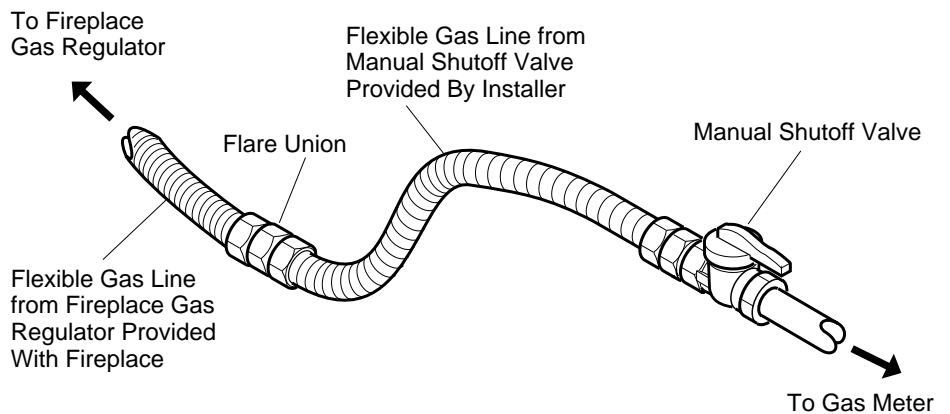

Figure 18 - Attaching Flexible Gas Lines Together
NOTICE: Most building codes do not permit concealed gas connections. A flexible gas line is provided to allow accessibility from the fireplace (see Figure 18). The flexible gas supply line connection to the manual shutoff valve should be accessible.
4. Attach a 45° flare union gas connector to flexible gas line from gas supply (see Figure 18). Connect flare union to flexible gas line attached to gas regulator of fireplace (see Figure 18).